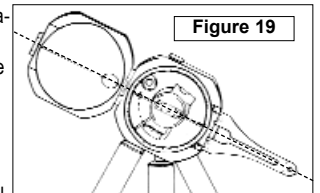

Figure 19
1. With pocket transit attached to the tripod using the ball and socket mount, tilt the head 90°. (Fig 19).
3. Align sights with object behind transit. (Fig 19)